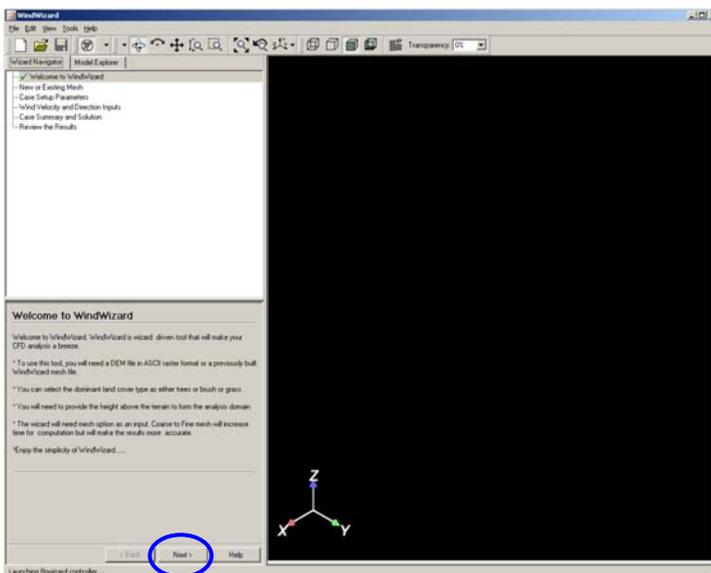

Figure 1. WindWizard opening screen.
1. Open the WindWizard by double-clicking on the FloWizard icon on your desktop and click **Next** (Figure 1.)